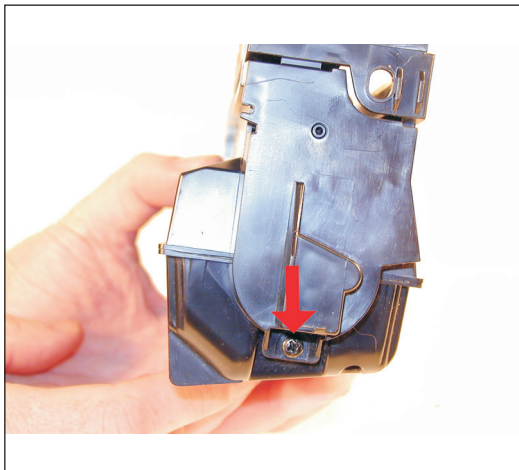

Figure 21
15) Remove the side gear cover and screw. See Figure 21